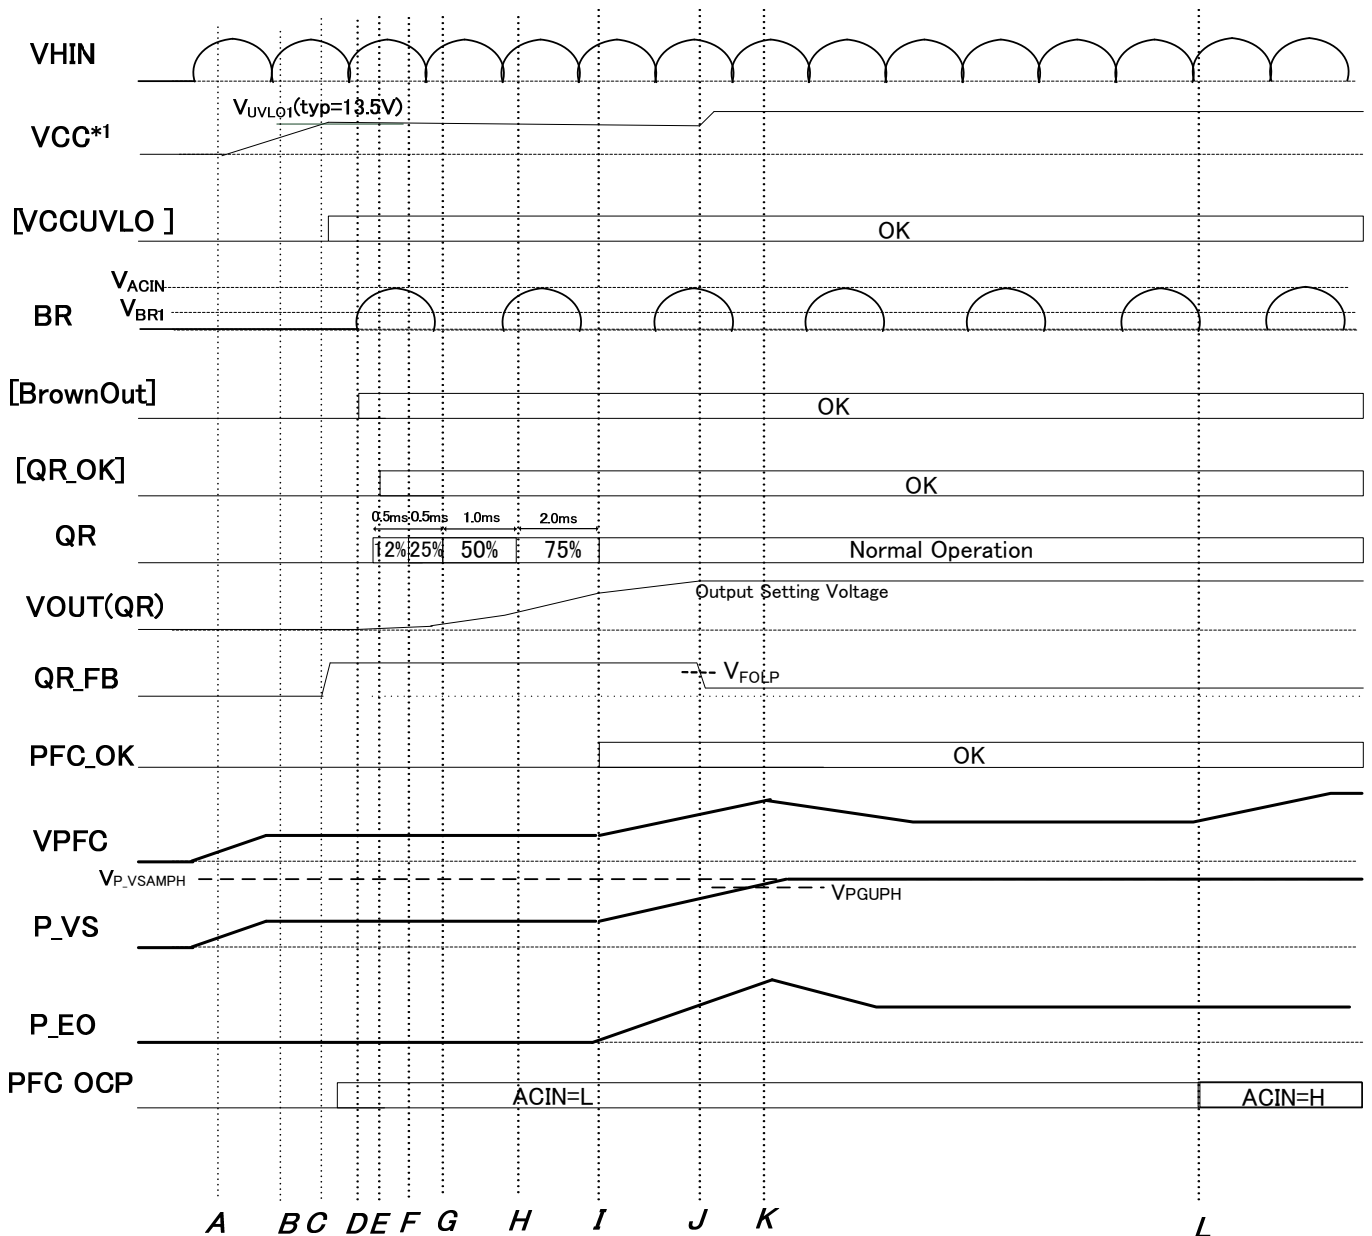

Figure 6. Start-up Sequence Timing Chart
When the VCCUVLO is released and the brown out function is released, then IC starts. At starting, QR starts to operate in soft start first. After the soft start finishes, PFC starts to operate. After QR output is stable, in the case of POFFSET voltage > CS detect voltage PFC stops. The PFC off time is set at P\_TIMER pin. In the case of POFFSET voltage < CS detect voltage for more than 4ms, PFC switches from OFF to ON. The waveform of start-up is shown in Figure 6.
•Operation explanation of Figure 6.
The IC PFC OCP detect voltage is switched from -0.6V to -0.4V because ACIN=H is detected in Figure 6.